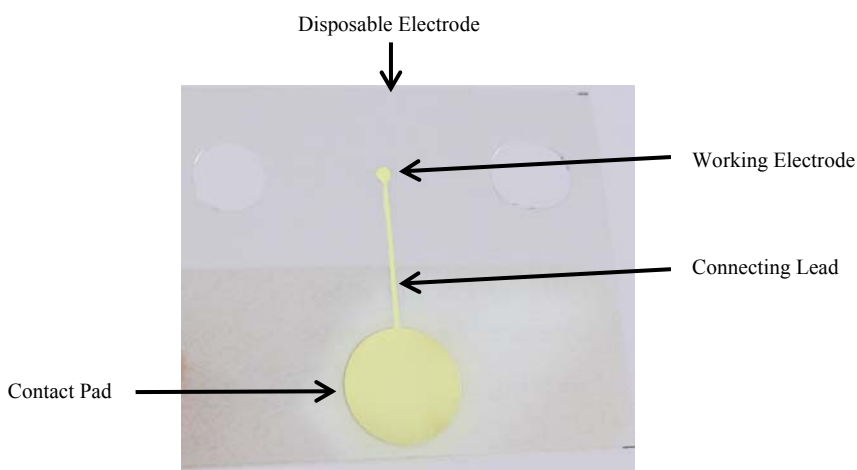

Figure 1 - Disposable Electrode
Figure 1 shows a gold disposable electrode (DE). When used in conjunction with the 2 mil PTFE Gasket, P/N 060141 (not shown), disposable electrodes are compatible with ED40, ED50 and ED (ICS-3000) electrochemical detectors. The small circle on the DE is the working electrode. The larger circle is a contact pad. The working electrode and contact pad are connected by a straight, narrow lead. All three parts of the DE consist of a thin layer of titanium coating with a top layer of the working electrode material (either Au, Ag, Pt or C). The reverse side (the “dull” side) of the polymer sheet does not carry any metal.